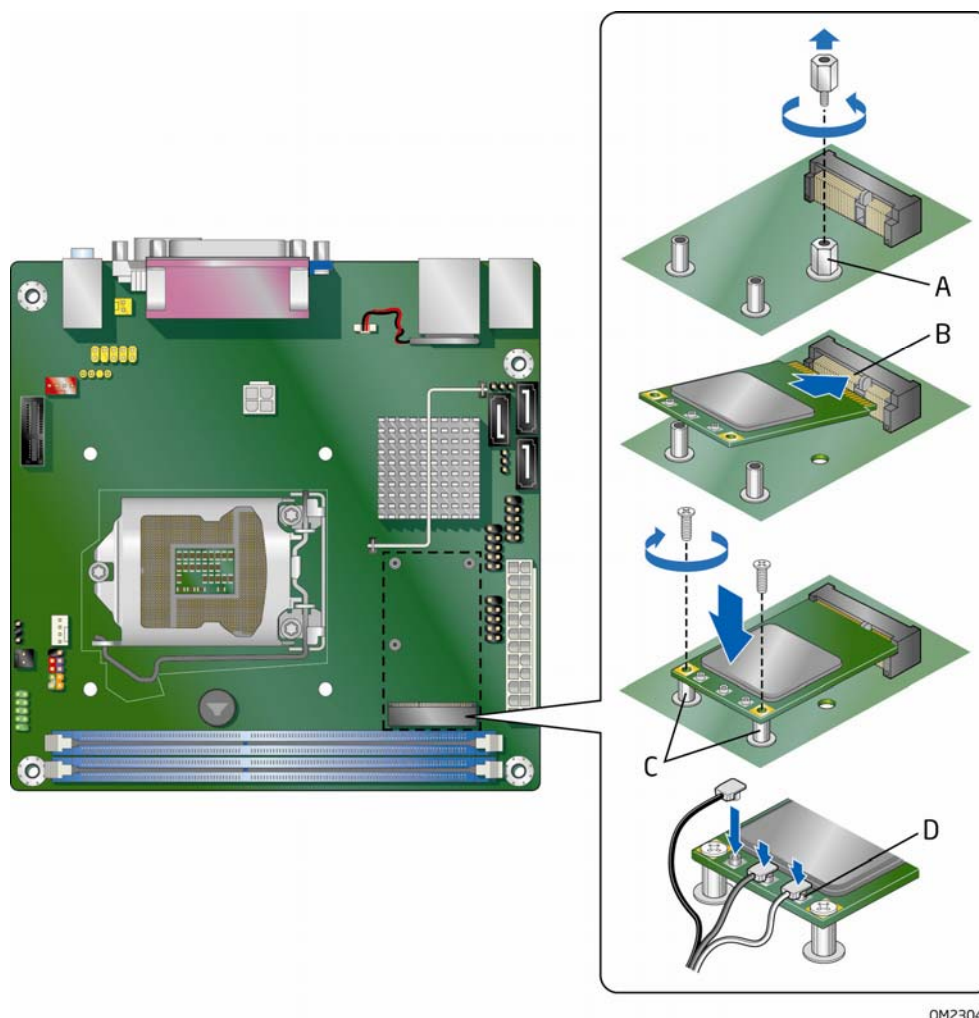

Figure 17. Installing a PCI Express Full-Mini Wireless LAN Card
To install a PCI Express Full-Mini Card wireless LAN card on the Desktop Board, see Figure 17 and follow these steps:
3. Remove the mounting post (Figure 17, A) by turning it counter clockwise as indicated.
4. Insert the wireless LAN card into the PCI Express Mini Card connector (Figure 17, B) at a slightly upward angle.
5. Align the mounting holes with the posts (Figure 17, C) and secure the card with two screws.
6. Attach your system's antenna wires to the connectors (Figure 17, D) on the wireless LAN card as shown.